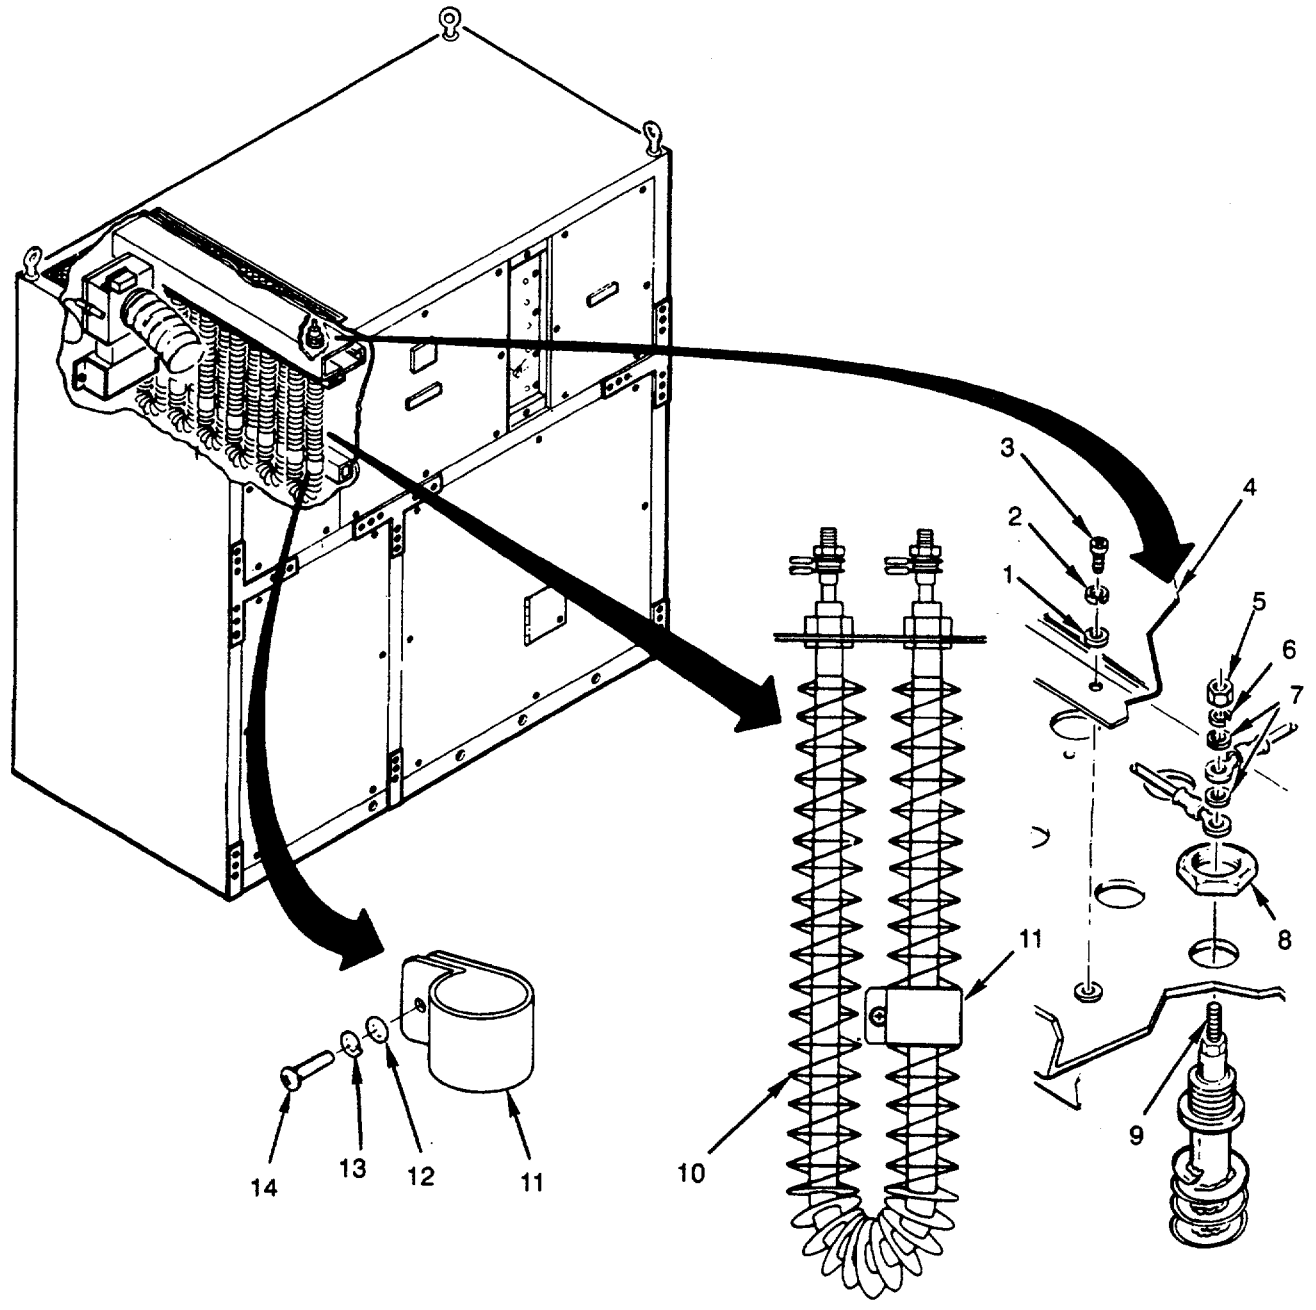

Figure 4-80. Electric Heater
1. Remove three screws (3), flat washers (1), and lockwashers (2) (see Figure 4-80).
2. Remove plastic cover (4).
3. Remove two locknuts (5), lockwashers (6), and four flat washers (7).
5. Remove two nuts (8).
6. Remove screw (14), flat washer (12), and lockwasher (13).
7. Remove element (10) and clamp (11).